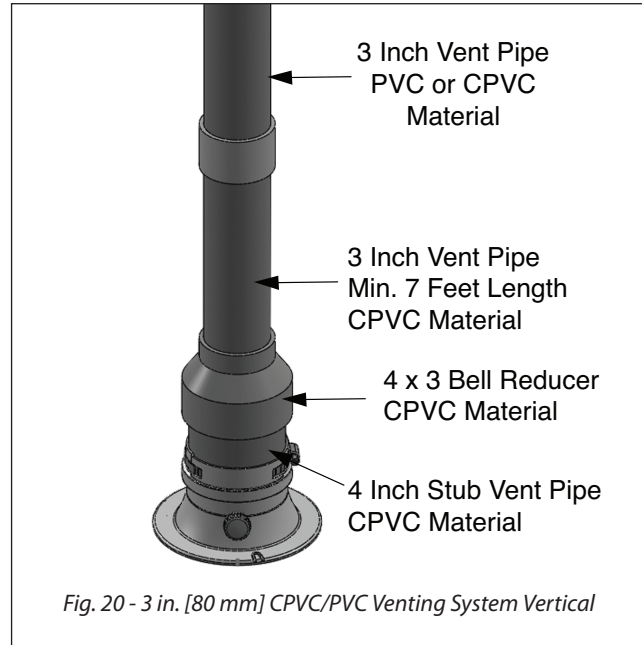
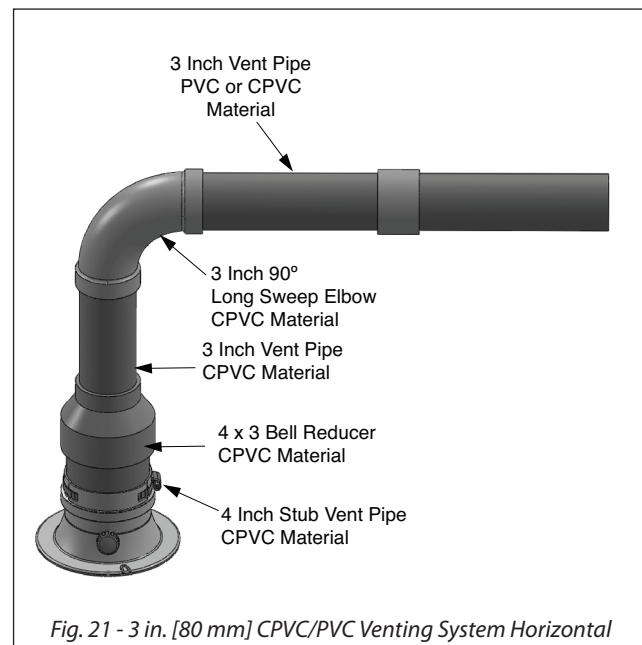

Fig. 20 - 3 in. [80 mm] CPVC/PVC Venting System Vertical
Fig. 21 - 3 in. [80 mm] CPVC/PVC Venting System Horizontal
3. Use a 4 in.x3 in. bell reducer to make the transition to 4 in. [100 mm] CPVC/PVC vent. See *Fig. 20 & Fig. 21*.